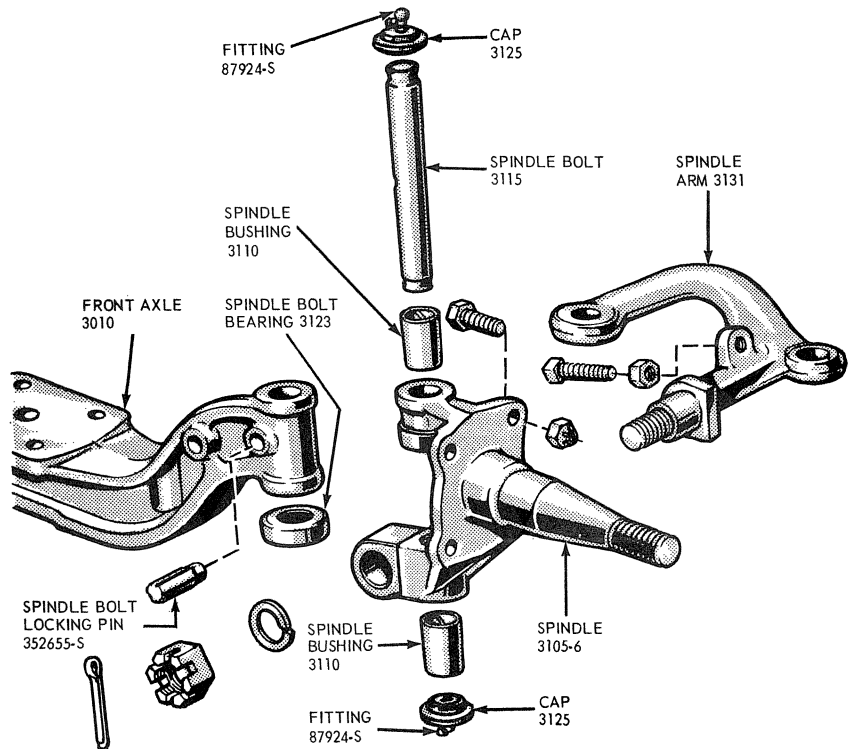

FIG. 1—Spindle Disassembled
The front axle is of the I-beam type with the front wheel spindles attached to the ends of the axles (Fig. 1).
5. At each front spindle, perform the following steps (Fig. 1).
5. At each end of the front axle, perform the following steps (Fig. 1).